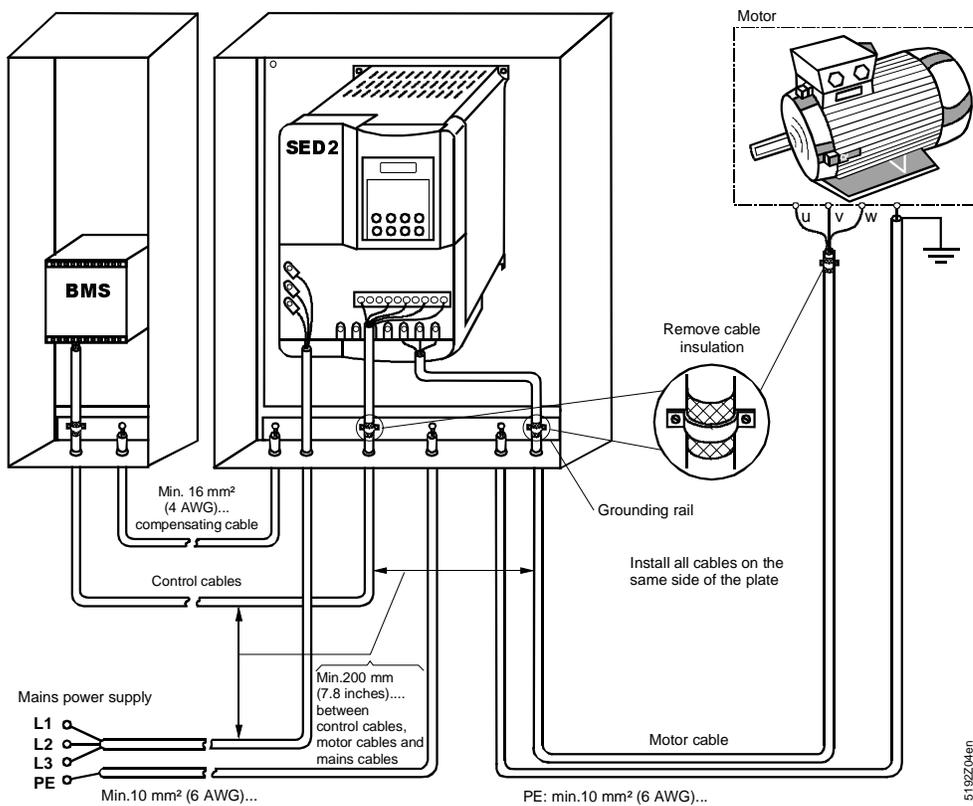

Figure 3. Routing Control, Mains, and Motor Cables.
- Lay control, mains, and motor cables separately by routing them in separate cable ducts and maintaining a minimum clearance of 7.8 inches (200 mm). See Figure 3. If you cannot avoid crossing cables, run them at a 90-degree angle.
- Motor cables should be as short as possible and should not exceed 82 ft (25 m). Connect the neutral conductor of all motors controlled by a SED2 drive directly to the ground connection (PE) of the respective SED2.